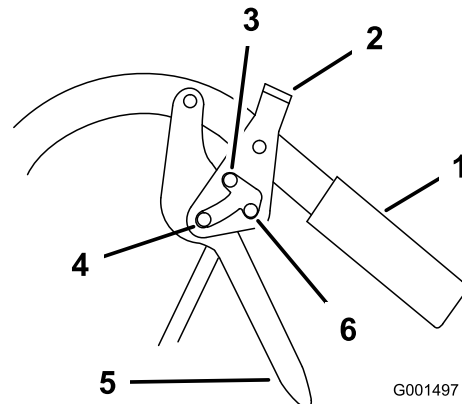

Figure 5
1. Squeeze the drive levers (Figure 5).
2. Place your thumbs on the upper part of the locks and move them forward into the PARK position (Figure 5).
1. Squeeze the drive levers rearward (Figure 5).
2. Place your thumbs on the upper part of the locks and move them rearward until they are in the DRIVE position (Figure 5).
2. Place your thumbs on the upper part of the locks and move them rearward into the NEUTRAL-LOCK position (Figure 5).
2. Place your thumbs on the upper part of the locks and move them forward until they are in the DRIVE position (Figure 5).